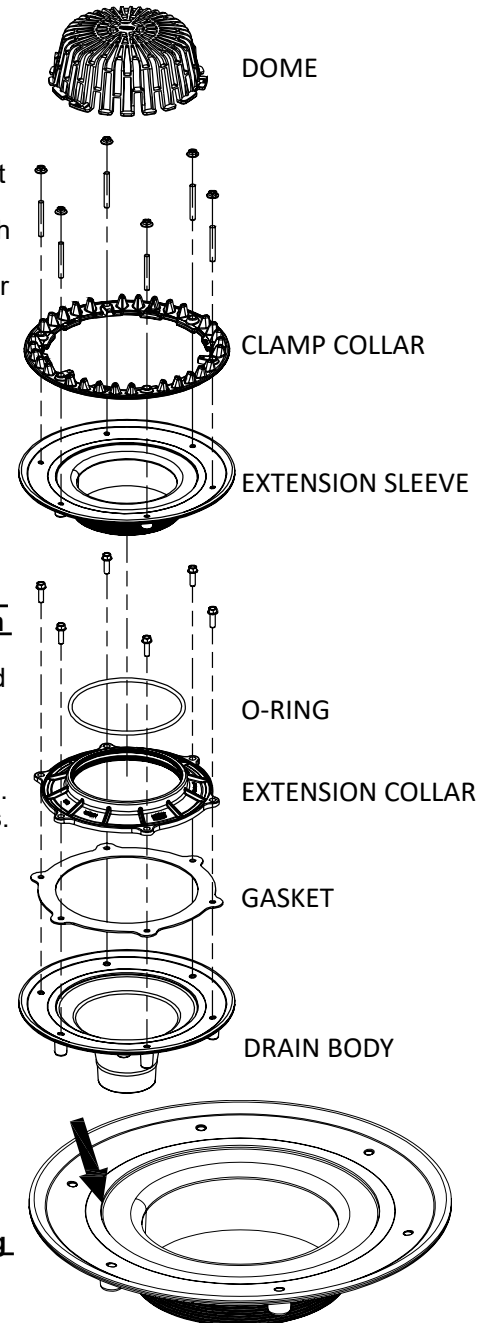

Fig. 1
10. Cut the membrane as per the roof membrane manufacturer's requirements in the center of the clamping collar. Continue to cut outward until the precast cutting edge in the extension body is located (Fig 1 ). Once precast edge is found, cut out circular section of membrane by following the cutting edge. **Warning: Failure to properly cut the membrane along the prescribed cut edge of the extension body may result in decreased flow performance of the roof drain.**